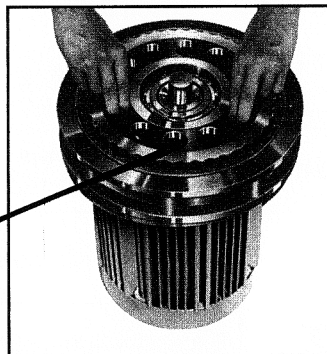

Fig. B-22
9. The eccentric bearing assembly (3-04) can be removed from the motor shaft after taking out the retaining ring (3-10), or the bearings (3-02), figures B-22, B-23.
5. Insert the spacer and the inner bearing raceway. Secure them with the retaining ring (Fig. B-22).